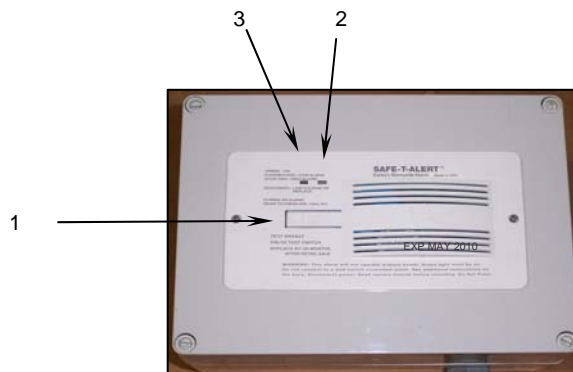

Figure 26. CO Monitor Test.
- a. Test the unit by pressing the TEST/RESET button (**Figure 26, Item 1**). The indicator light (**Figure, Item 2**) should change from green to red (**Figure 26, Item 3**) and the alarm horn (**Figure, Item 3**) should sound.